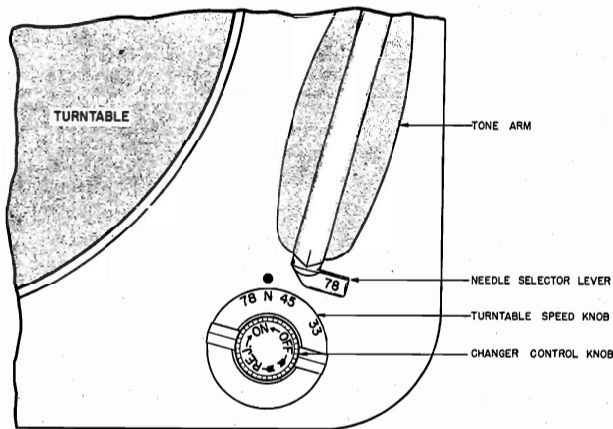

FIG. 1 CHANGER CONTROL DETAIL
3. Select fine-groove needle by turning Needle Selector Lever to "33-45" position (See Fig. 1).
4. Set Turntable Speed Knob to "45" position. (See Fig. 1.)
7. Start the changer by turning the Changer Control Knob (Fig. 1) to "REJ" and releasing. Changer will then play all records on the spindle and automatically shut off after the last record has been played.
3. Turn Needle Selector Lever to "78" position. (See Fig. 1.)
4. Set Turntable Speed Knob to "78" position. (See Fig. 1.)
3. Turn Needle Selector Lever to "33-45" position. (See Fig. 1.)
4. Set Turntable Speed Knob to "33" position. (See Fig. 1.)